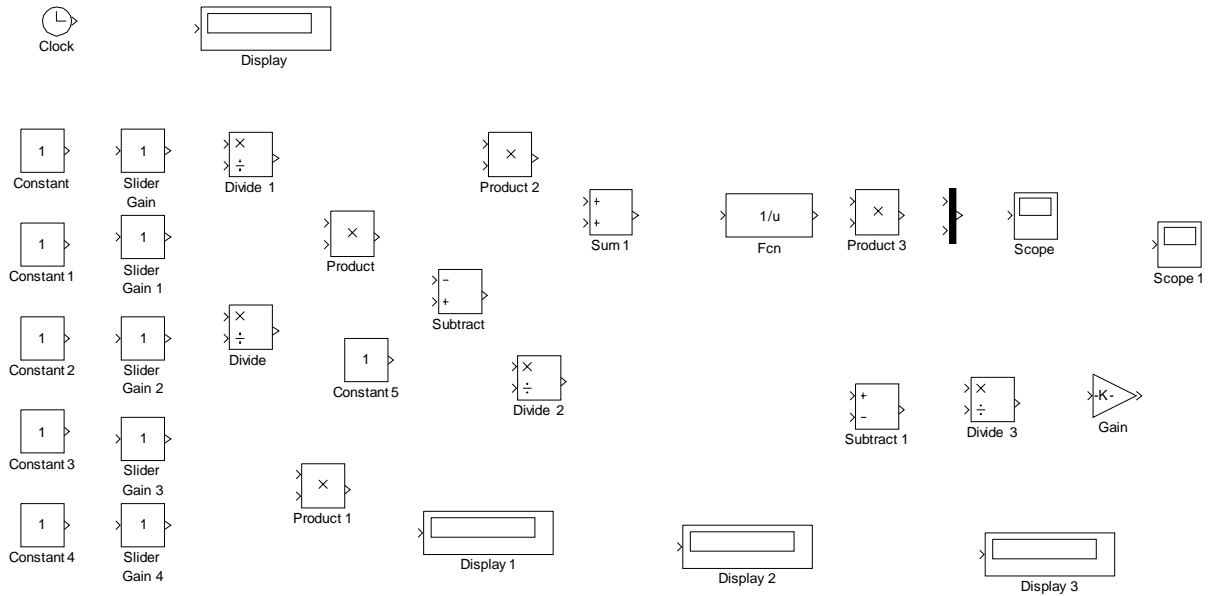

Figure 3 Blocks needed for the simulation program
- Select blocks as in **Fig. 3** from the Simulink Library Browser.